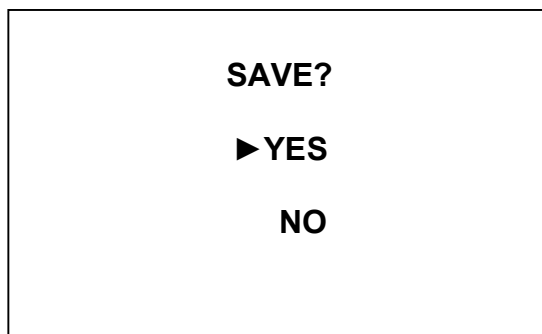

Fig. 2.9
- 13** Press the  key. Calibration is completed and the display shown in Fig. 2.9 shall come up.